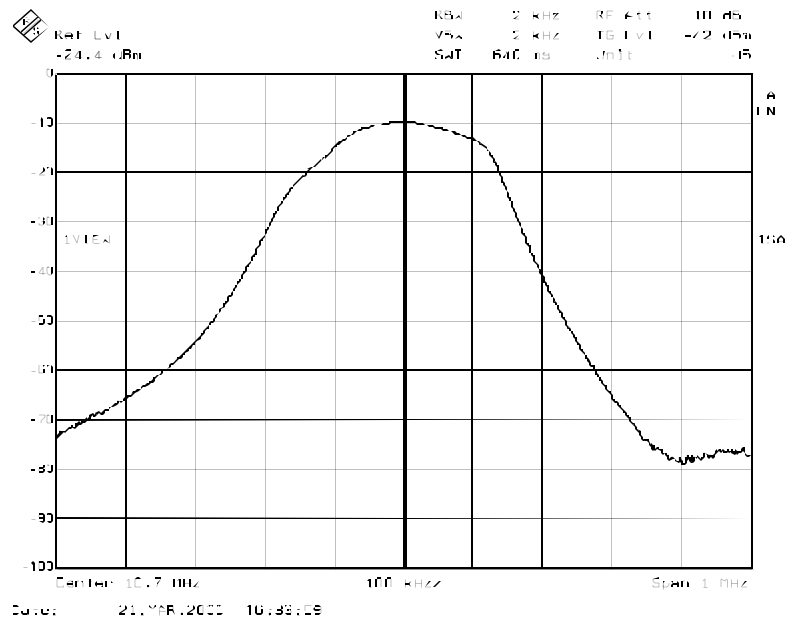

Fig.8 AM 1st IF selectivity
The 1st IF-freq. (filtered with ceramic filter of 10.7MHz, common used with FM-IF) is mixed down to 450kHz, a standard frequency where a low priced filter takes care for channel selectivity before detection takes place. The image frequencies 2 and 3 are caused by this 2nd mixing, as the VCO has transferred these image frequencies to 9.8MHz (here called IF2_image). This 9.8 MHz will be mixed to 450kHz by the 2nd mixer and therefore 9.8 MHz has to be suppressed in the 10.7MHz 1st IF filter. *Suppression at 9.8MHz in a first IF selectivity acc. to Fig. 8 is about 65dB.*
- **The 1st IF-filter**, symmetrical at the mixer-output, pins 18/19, is a tuned LC circuit with a ceramic 10.7MHz filter, common used with FM, having behaviour as shown in Fig.8.